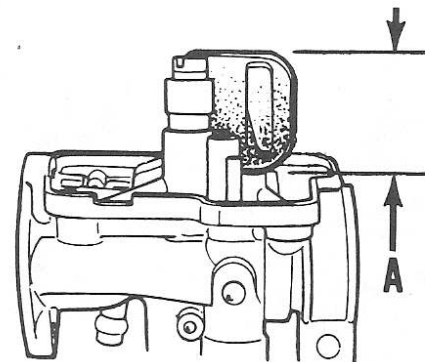

Fig. S1-5—Float level (A) should be 24.5-25.0 mm (0.96-1.00 in.). Bend float arm tang to adjust.
During reassembly, renew all gaskets and fiber washers. Clip (14) should be in third groove from top on jet needle (15). To check float level, remove float bowl (31) and invert carburetor. Distance (A—Fig. S1-5) between bottom of float and carburetor body with gasket removed should be 24.5-25.0 mm (0.96-1.00 in.). Adjust float level by bending float arm tang.